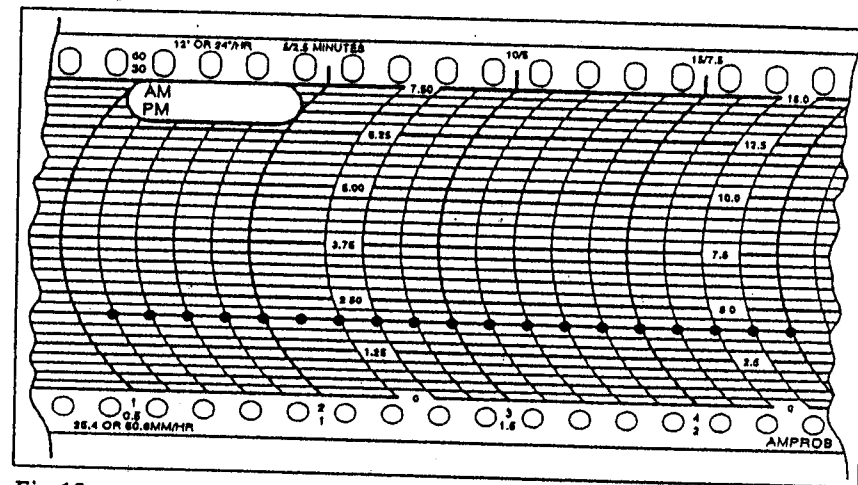

Fig.13
4. Count the number of divisions to the place where a dot was made on the chart. Multiply the number of divisions counted by 4. **THIS WILL GIVE YOU YOUR ACTUAL READING**; 8 divisions times 4 KW = 32 KW thus 32KW is the value indicated on the chart, (fig 13).